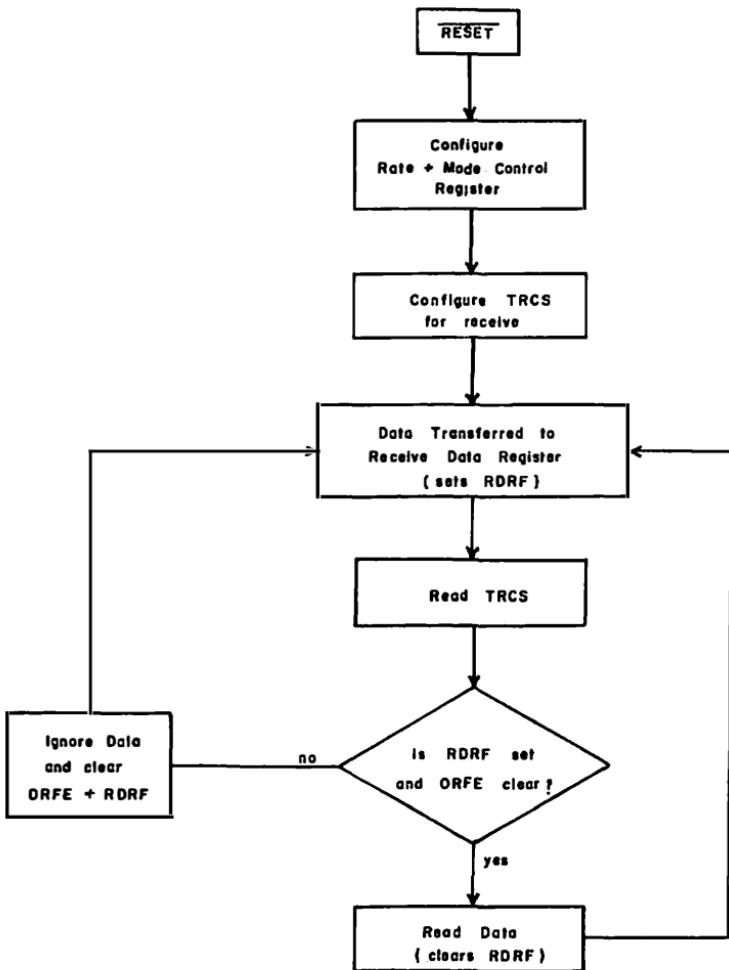

Fig. 7-8. Receive operation flowchart.
The receive operation is shown in Fig. 7-8. Again, you will con-
20. Refer to Fig. 7-8.